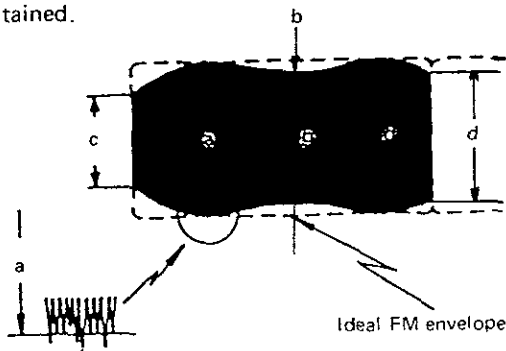
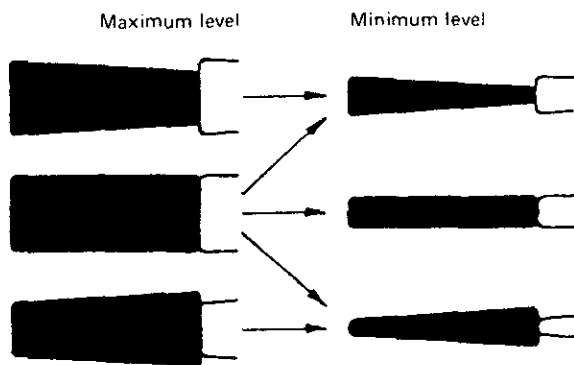

Fig. 25 FM waveform (max. output)
Fig. 26 Normal waveform examples
4. Refer to Fig. 25. Read the level of portion (a) of the waveform. If the waveform is serrated at point (a), read the value at the most uniform serrations as shown at left in Fig. 26.
The waveform variation should be nearly parallel as shown in Fig. 26.